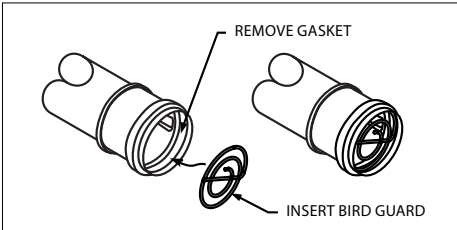

Figure 11
8. Remove gasket and install Bird Guard into end of pipe. (**Fig.11**)